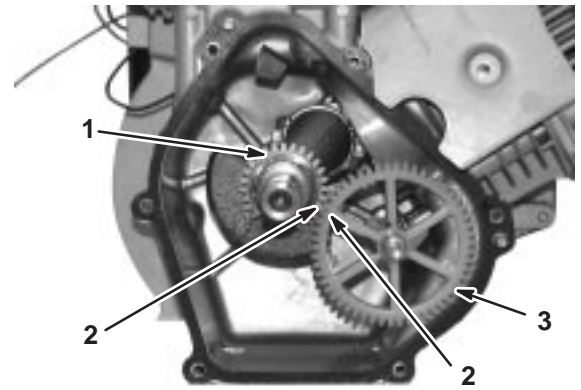

Fig. 131 – Removing Camshaft
7. With camshaft in this position, the valve tappets will remain clear of cam lobes. Lift out camshaft, Fig. 131.